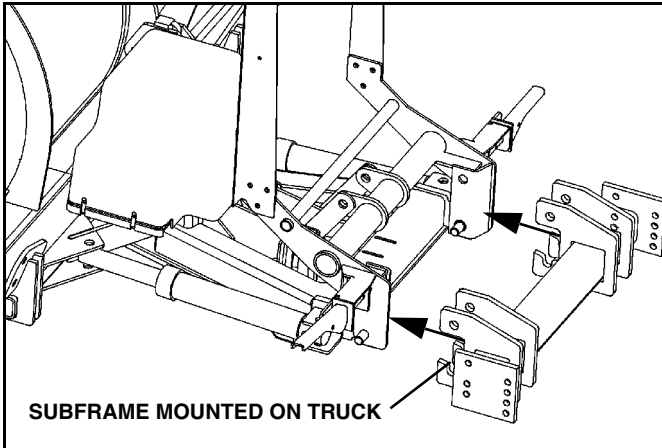

Figure 1-1
1. Drive truck into plow. Align light/lift bar frame inside of sub-frame lugs. Pins should fit inside slots cut into sub-frame lugs. (See Figure 1-1).